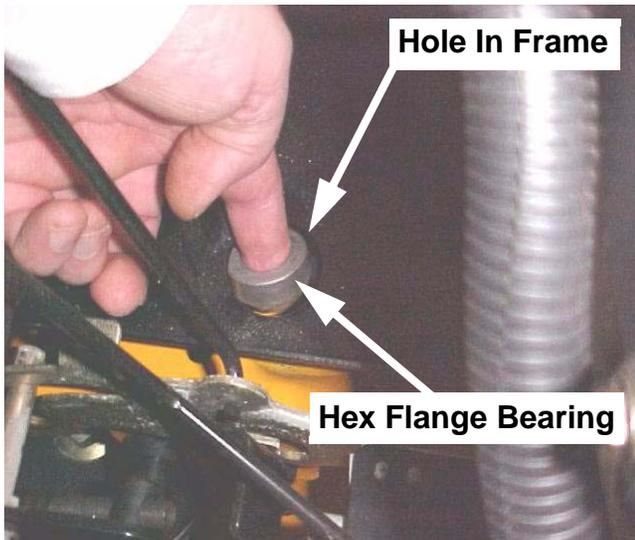
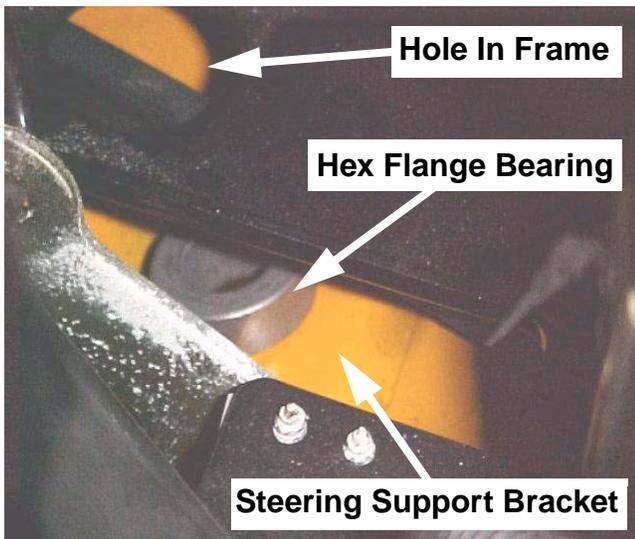

FIGURE 5A
FIGURE 5B
24. Install the new Flange Bearing (**741-04237B**) provided in the Service Kit, through the hole in the frame, Figure 5A. Secure into the Hexagonal hole in the Steering Support Bracket, see Figure 5B.